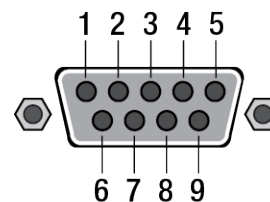

Figure 39. TLS-450PLUS RS-232 Connector Pin Outs
3. The TLS-450PLUS RS-232 connector pin outs are shown in Figure 39.